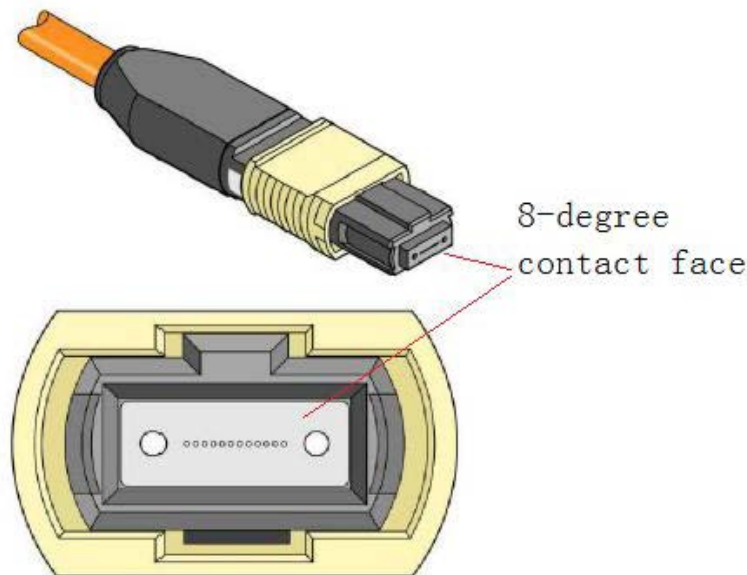

Figure 5. Female MPO Connector with 8-degree End-face
**Attention:** To minimize MPO connection induced reflections, an MPO receptacle with 8-degree angled end-face is utilized for this product. A female MPO connector with 8-degree end-face should be used with this product as illustrated in Figure 5.